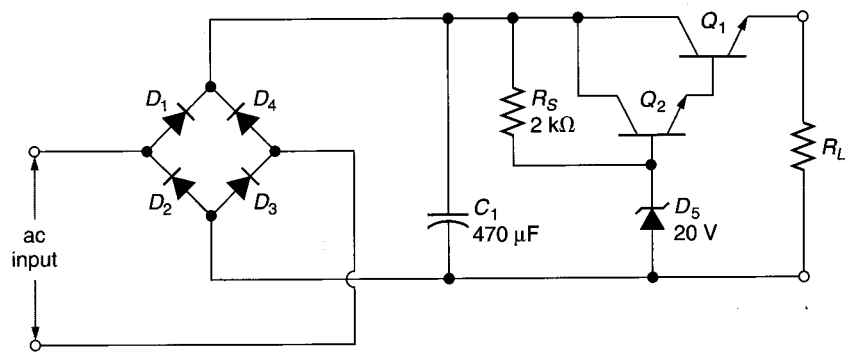

FIGURE 21.26
10. Determine the approximate value of  $V_L$  for the circuit shown in Figure 21.26.